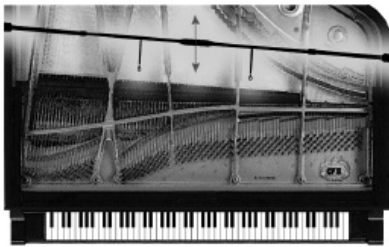
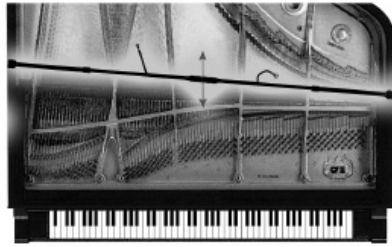

Figure 6. Facing the Mic Heads Towards the Dampers
Figure 7. Facing the Mic Heads Away From the Dampers
4. The PianoMic™ can be placed inside the piano with the microphone heads either facing the dampers (Figure 6) or facing away from the dampers (Figure 7). For optimum results, the PianoMic™ System should be placed in the piano with the microphone heads positioned two to three inches away from the dampers. How you place the PianoMic™ System in the piano will depend upon the piano, its size and how it is made. This will govern whether the microphone heads can be faced toward or faced away from the dampers. It is best to position the PianoMic™ System so that the support bracket does not rest on the curved part of the piano case.